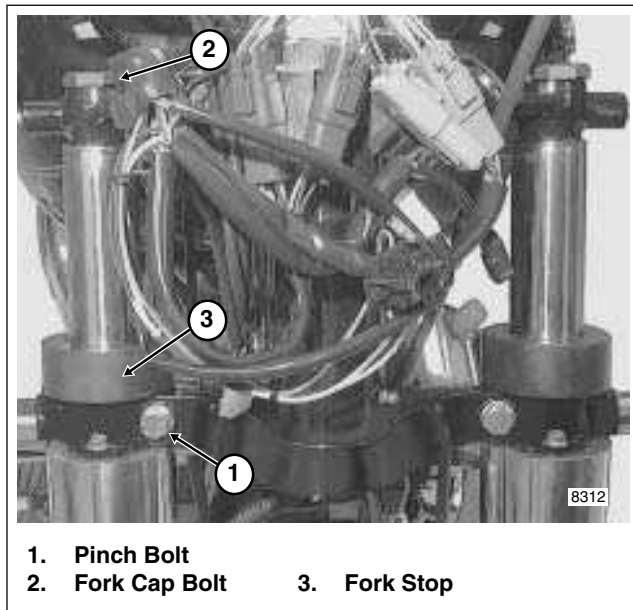

Figure 2-73. Remove Fork Cap Bolt (FLHR/C/S Shown)
5. Loosen pinch bolt (with lockwasher) on left side of lower fork bracket, but do not remove. See Figure 2-73.